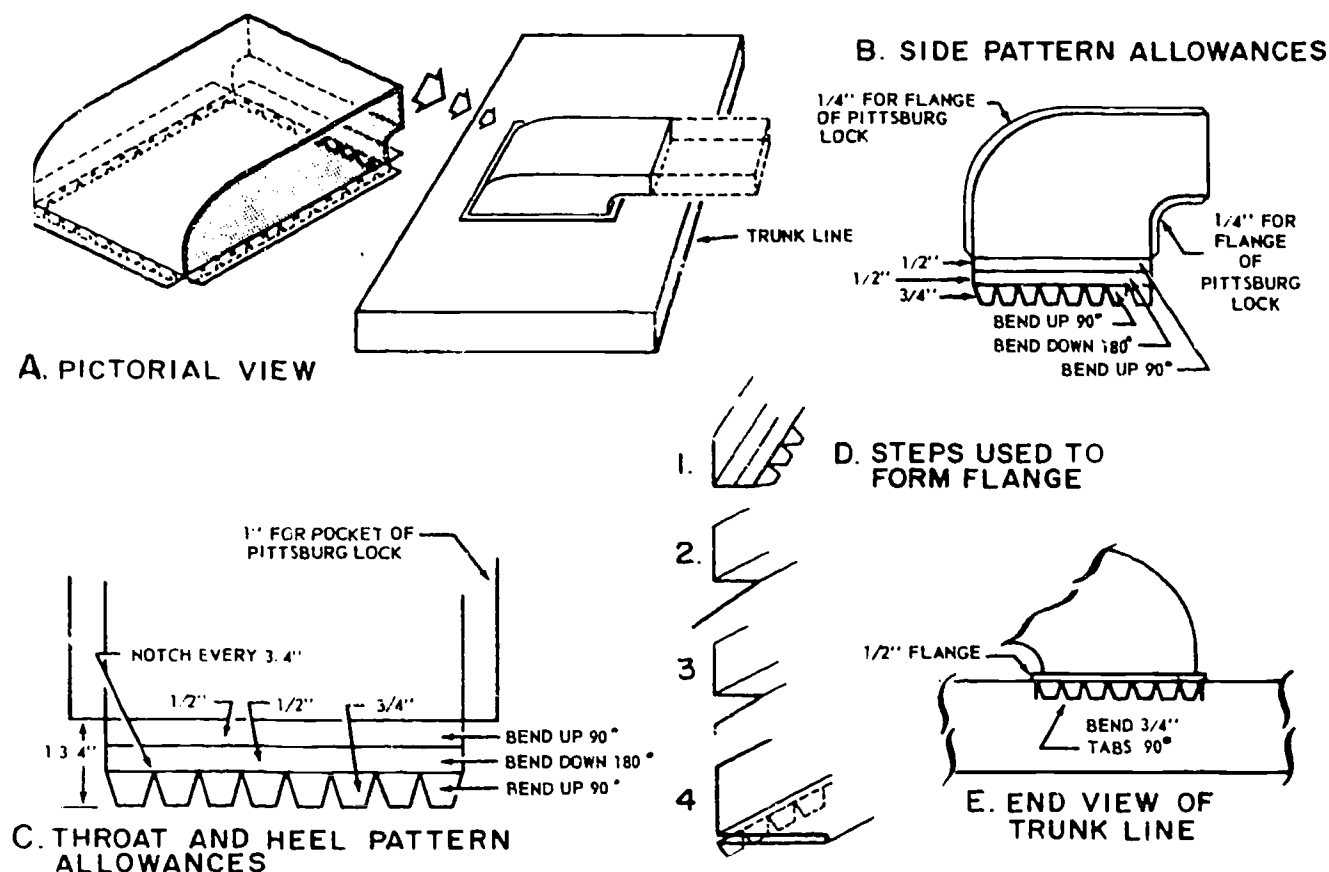

Figure 2-18. Making a tapped connection for a curved takeoff fitting.
**Tapped Connection.** A tapped connection, like the one shown in view A of figure 2-18, is used to join a takeoff fitting to a duct. A takeoff fitting (also called a takeoff or simply a fitting) is used to connect a smaller duct or branch line to a larger duct, such as a trunkline. You may find some sheet metal workers using other names of the tapped connection of a takeoff. ("Clinch lock", "P-lock," and "tap connector" are often used. In step 4, view D, of figure 2-18, you can see the flange (sometimes called a frame or collar), which forms a base for the takeoff fitting when it is installed in the trunkline opening. After the tabs are inserted in the opening, they are bent 90° to lock the fitting to the trunkline. A takeoff fitting may be curved, straight, or tapered, making a neat flush fit.
The curved tapped connection illustrated in figure 2-18 is in the form of an elbow, and four pieces are required for its fabrication: two sides, a throat, and a heel. Pittsburgh lock seams are used to join all four corners. The material allowance to make this tapped connection is included in each pattern. Note in view B and view C of the illustration that the allowance on each pattern is 1 3/4 inches.
Before you form the tapped connection with a cornice brake, you must form the flanges and pockets for the Pittsburgh lock seams. Turn the 1/4 inch flange on the two side patterns, and form the pocket on the throat and heel patterns. Next, form the 1/2 inch flange for the tapped connection, as shown in steps 1 through 4 of view D in figure 2-18. Bending this flange with a cornice brake is the same procedure used earlier in this chapter to form a standing seam.